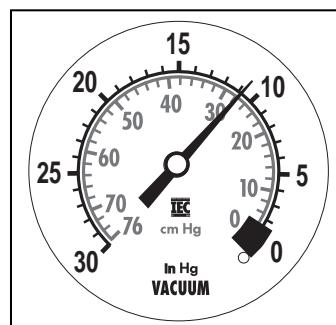

Figure 7
2. Intake system leak, late ignition/valve timing, or low compression (Figure 7)